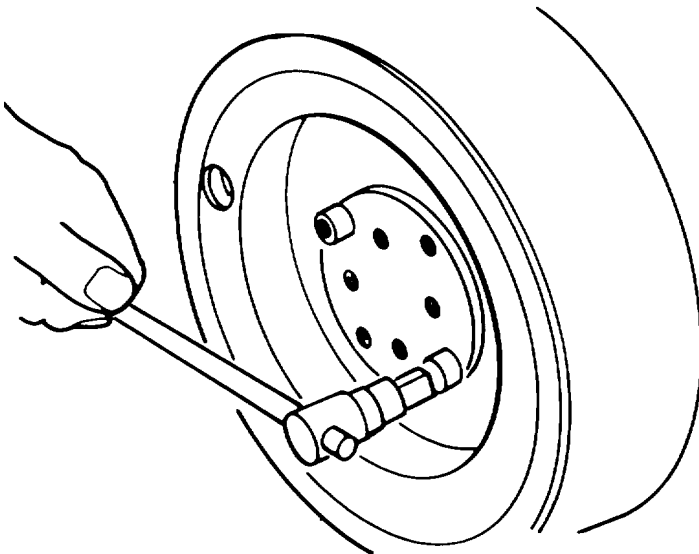

Figure A-28. Removal of Flywheel Nut and Flywheel
- (1) Leave the nut on the shaft. Install the flywheel puller and screw it down until the flywheel breaks loose from the crankshaft taper. Remove the flywheel nut and flywheel. (Figure A-28.)